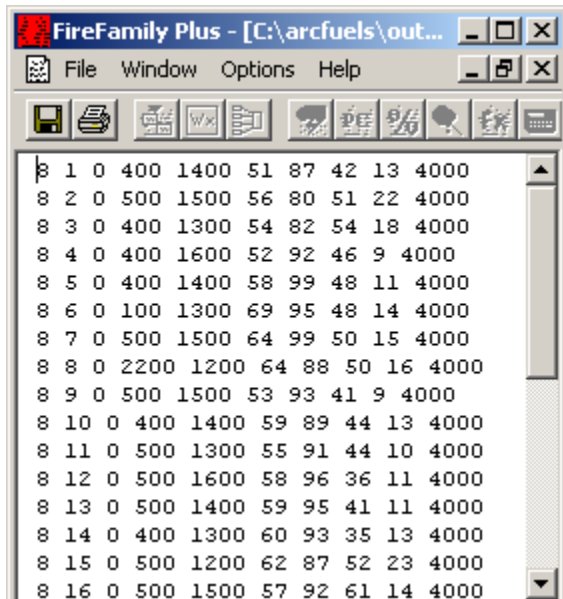

Figure 3-36—The WTR file created in FFP for use with FARSITE and FlamMap.
- 4) Look at the WTR file (fig. 3-36). This file contains minimum and maximum temperature and relative humidity, precipitation amount and duration for each day in the month of August. Specifically the headers are: